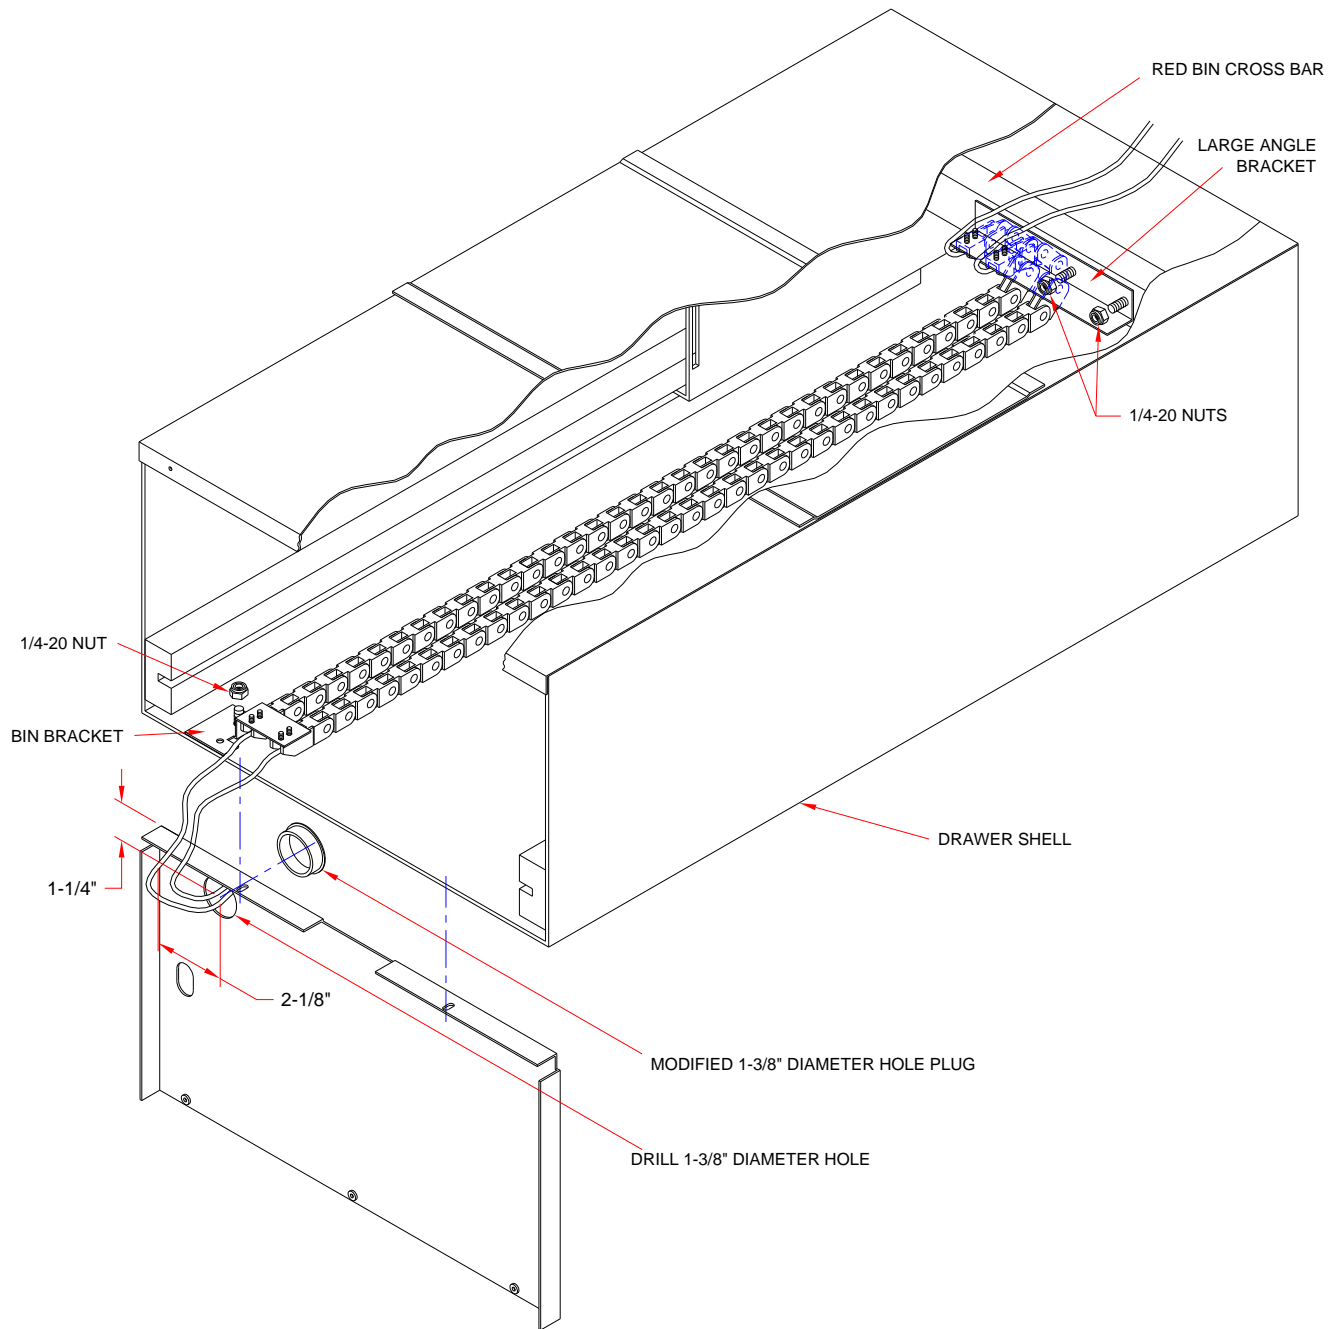

FIGURE 1
1. Run the drawer to the inside position, remove the five back panel screws, and remove the back panel (Figure 1).
9. Reinstall the red drawer bin, and hardware (Figure 1).
13. Remove the nut from the 1/4-20 stud located on the inside left of the drawer shell bottom, (Figure 1).
19. Run drawer to make sure that cable is free from moving parts (Figure 1).